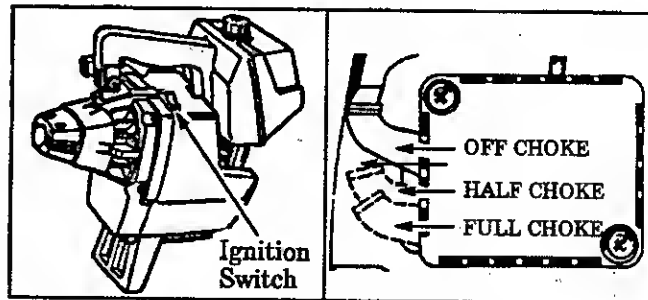

Figure 11
- Move Ignition switch to "On." Figure 11 .
- Move ignition switch to "On." Figure 11 .
- b. Move Ignition Switch to the "Off" position. Figure 11.